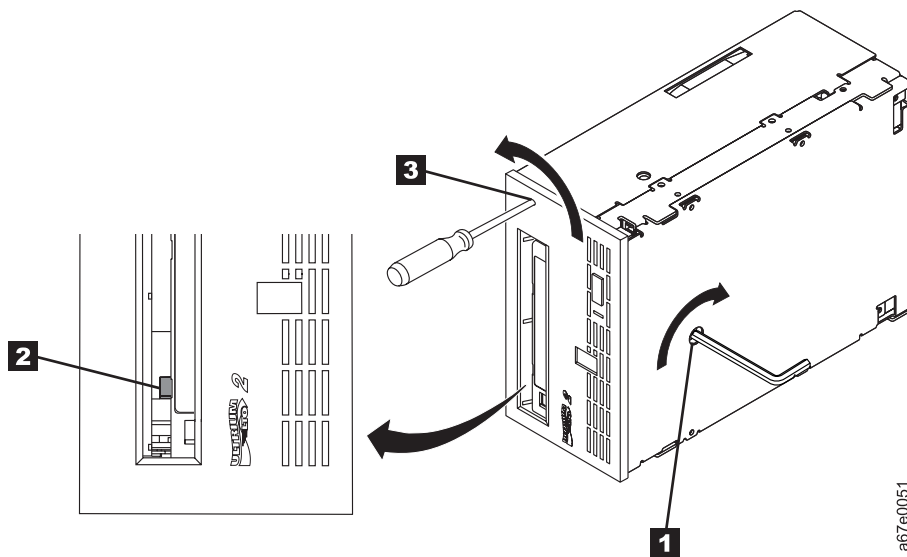

Figure B-14. Determining whether the tape is broken. The view is from the front of the drive.
6. Place the drive sled so the front of the drive faces you, then tilt it on its left side (see Figure B-14).
7. Locate the access hole at the bottom of the unit **1** in Figure B-14.